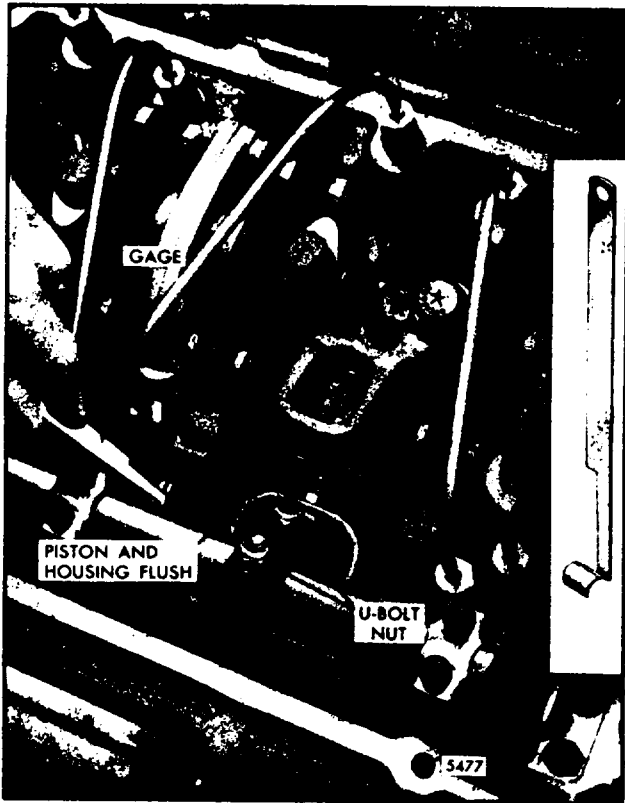

Fig 5. Adjusting Throttle Delay Cylinder
1. Refer to Fig. 5 and insert gage J 23190 (.454" setting) between the injector body and the shoulder on the injector rack. Then exert a light pressure on the injector control tube in the direction of full fuel.